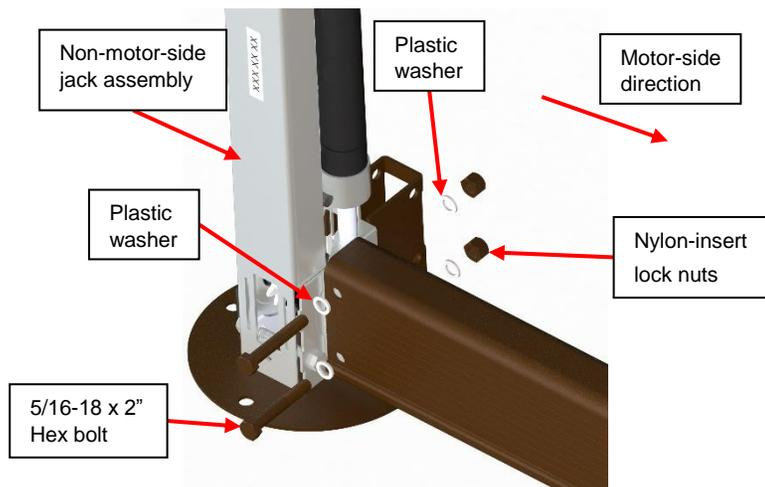

Figure 49
11) Install the long aluminum U-frame over the left driveshaft and ensure it lines up with motor-side and non-motor-side jack assemblies. Fasten it in place using two hexagonal 5/16"-18 x 2" bolts, two 5/16"-18 nylon-insert lock nuts and four 5/16" plastic washers per side. Use the 1/2" (13 mm) socket wrench and spanner as tool. **Do not fully tighten all bolts. The driveshaft may fall off during operation, and the re-assembling can be done faster when the bolts have not been fully tightened.** (Figure 49)